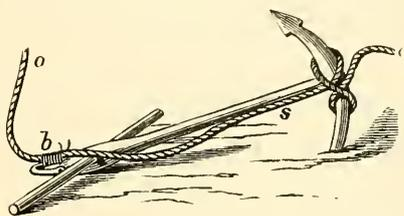

FIG. 325.
*Scowing an Anchor*.—When small boats have to anchor on ground known or suspected to be foul, it will always be prudent to scow the anchor (Fig. 325). Unbend the cable from the ring, and make the end fast round the crown, shank, and flukes with a clove hitch, and bring the end *a* back to *s*, and stop it round the cable with spun yarn or hitches; take the cable back to the shackle and stop it as at *b*; when the cable is hauled upon by the part *o* the stop at *b* will break, and the fluke of the anchor can be readily lifted out of its bed. Sometimes,